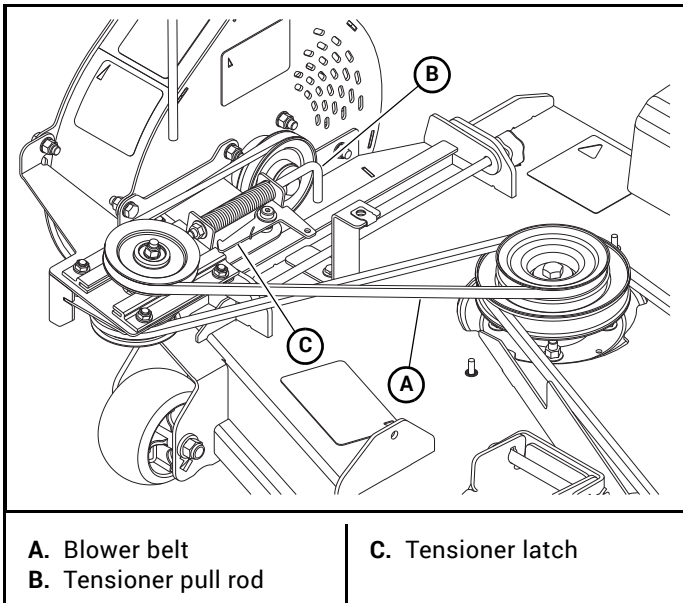

Figure 3-27
35. Release the tensioner latch to tension the belt. Figure 3-27